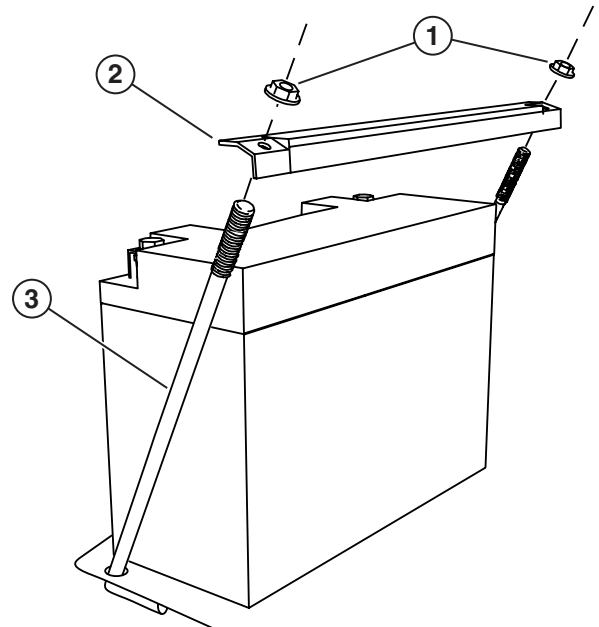

Figure 39
2. Loosen and remove the nuts on the battery hold-down plate and remove the plate from the support rods (see Figure 39).